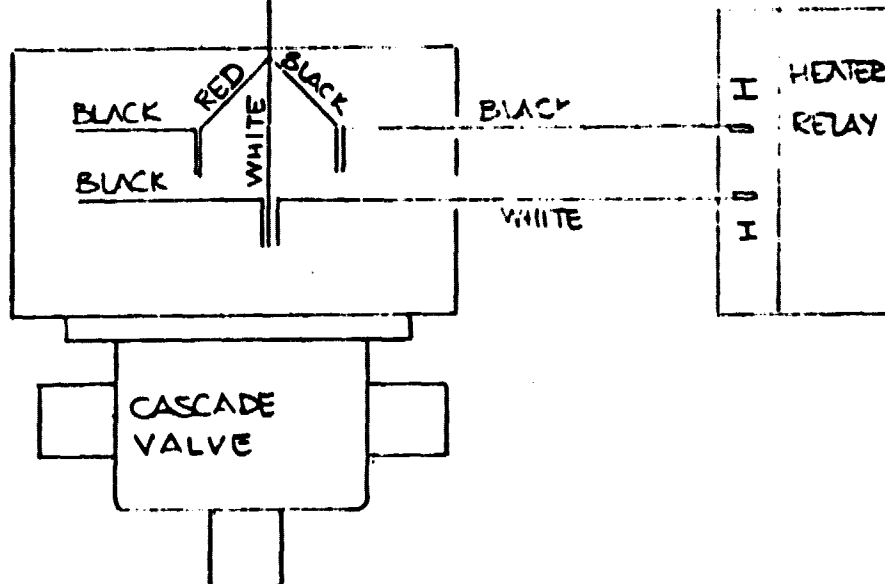

FIGURE 3.6.5.1
**3.6.5 The Actuator Leads:** Run the three wire actuator lead from the autocontrol unit to the CASCADE VALVE. Connect the wires as shown in Figure 3.6.5.1. The remaining two wire lead is then routed to the ELEMENT OVERRIDE relay and connected as shown in Figure 3.5.32. Neaten all low voltage leads by securing them to plumbing runs or the structure, as appropriate.